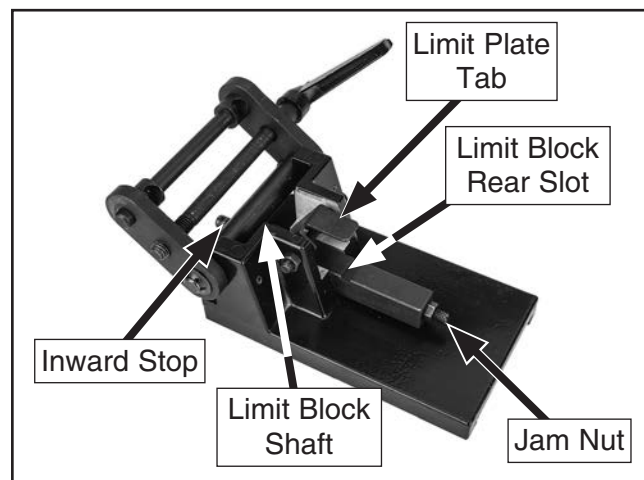

Figure 27. Fence stop parts identification.
4. Bring fence to 90°, then loosen jam nut located on rear of limit block shaft (see **Figure 27**)
Note: Keep limit plate in limit block rear slot while making adjustments (see **Figure 27**).
Note: When fence tilts towards table, it will stop when it contacts inward stop (see **Figure 27**).